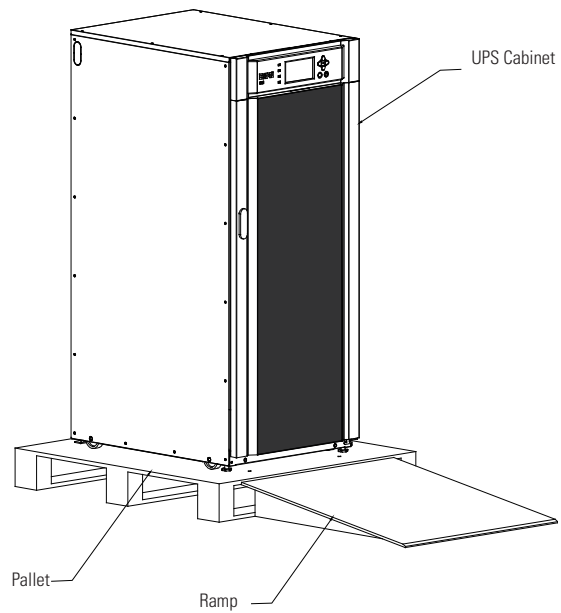

Figure 4-2. Attaching the Ramp to the Pallet
3. Attach the ramp to the front of the pallet (see Figure 4-2):